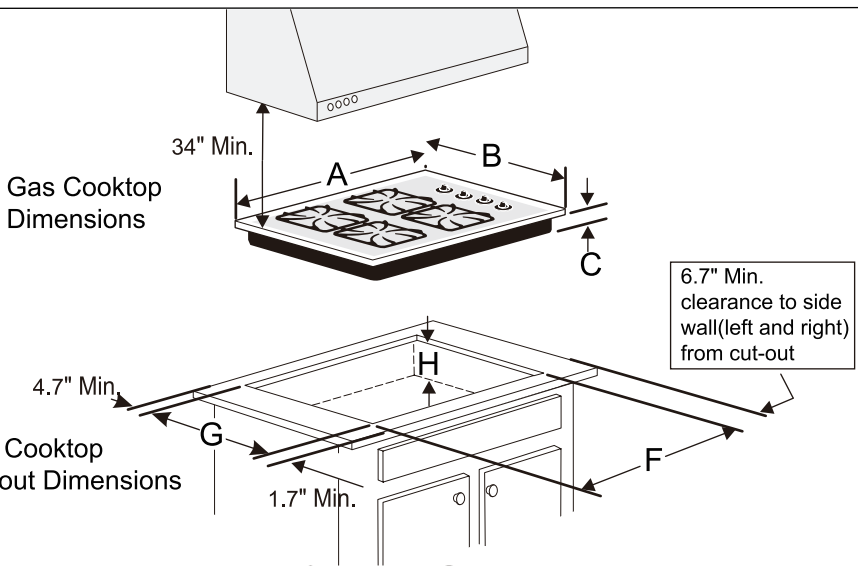

**Fig.7**
- c. The cupboard should be positioned near to the worktop at a height of 18" at least(Fig.7).